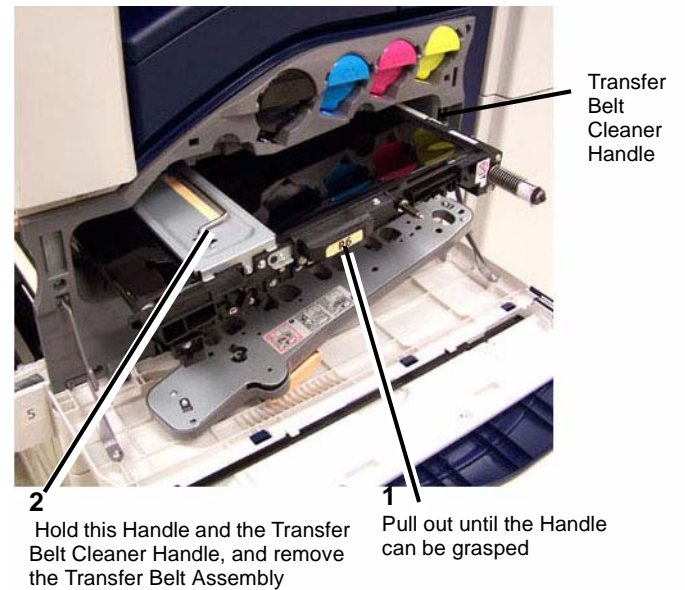

Figure 1 Transfer Belt Unit Removal
6. Remove the Transfer Belt Unit. (Figure 1)